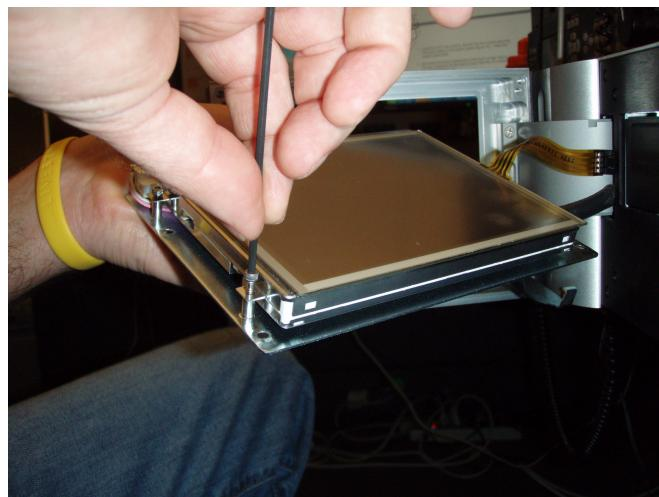

Figure 10 Reconnect Touch Screen to Support Panel Using the Four Hex Screws
8. Reconnect the touch screen to the support panel using the four hex screws you removed in step 5. Make sure you don't overtighten the screws (see Figure 10).